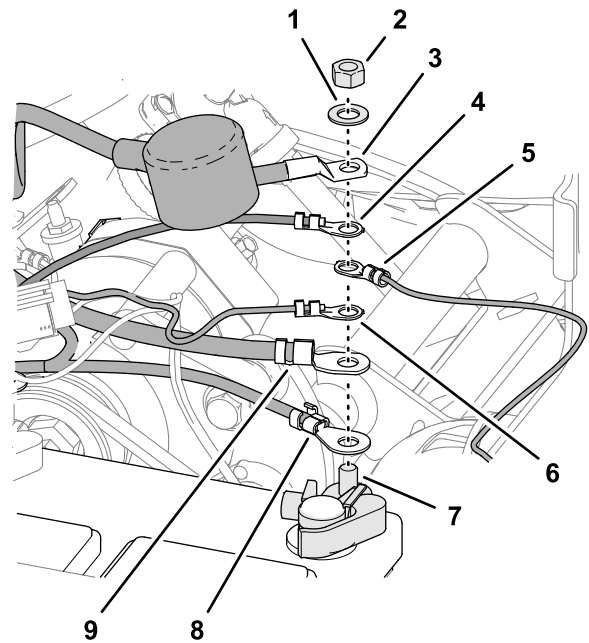

Figure 242
2. Assemble the following wire and cable terminals onto the threaded post of the positive battery terminal (Figure 242) in the following order:
4. Align the insulator cover of the positive battery cable to the starter over the threaded post (Figure 242).